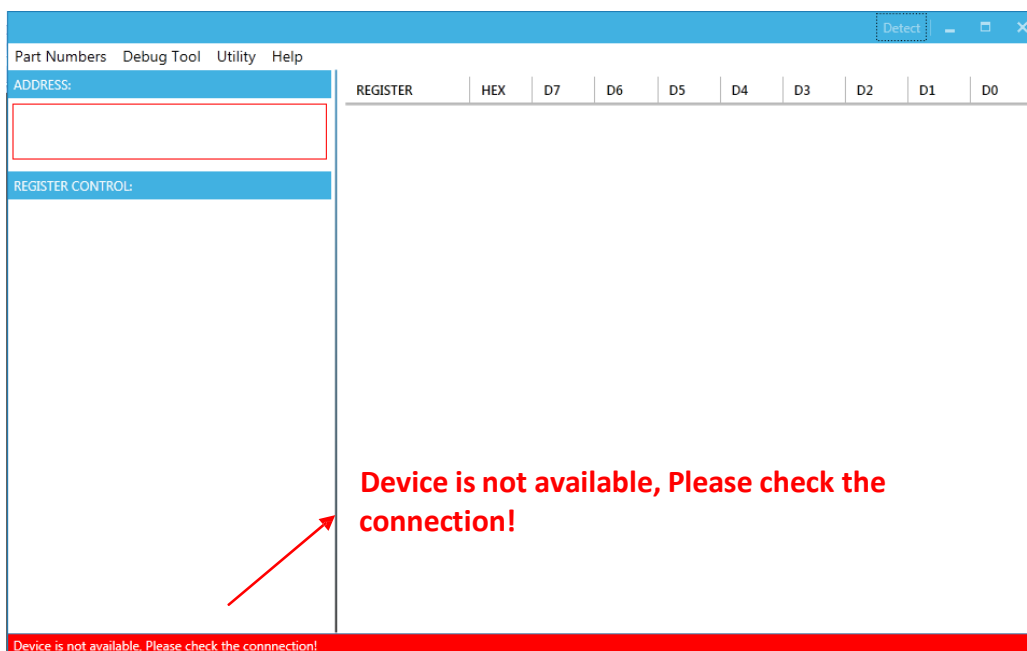

Figure 9: Warning Indicates Unsuccessful Connection – USB I²C Communication Interface Not Connected
- “Device is not available, Please check the connection!” This means that the USB I²C communication interface is not connected (see Figure 9).